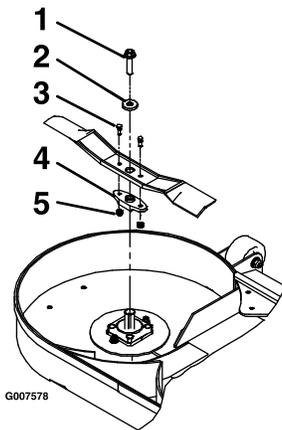

Figure 72
3. Remove the blade, washer, and blade bolt that secures the blade and blade driver (Figure 72).
4. Remove the blade driver from the existing blade (Figure 72).
1. Install the blade driver to the new blades with the shear bolts and locknuts (Figure 72).
3. Install the blade, washer, and blade bolt to the spindle shaft (Figure 72).